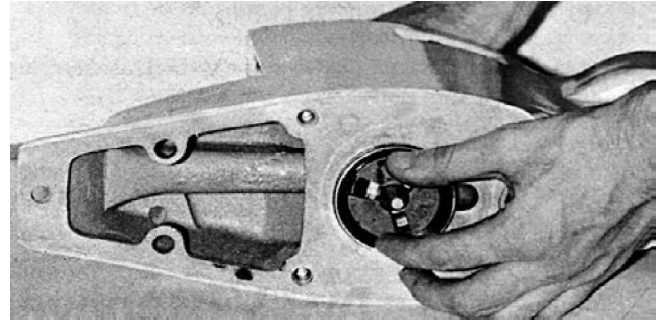
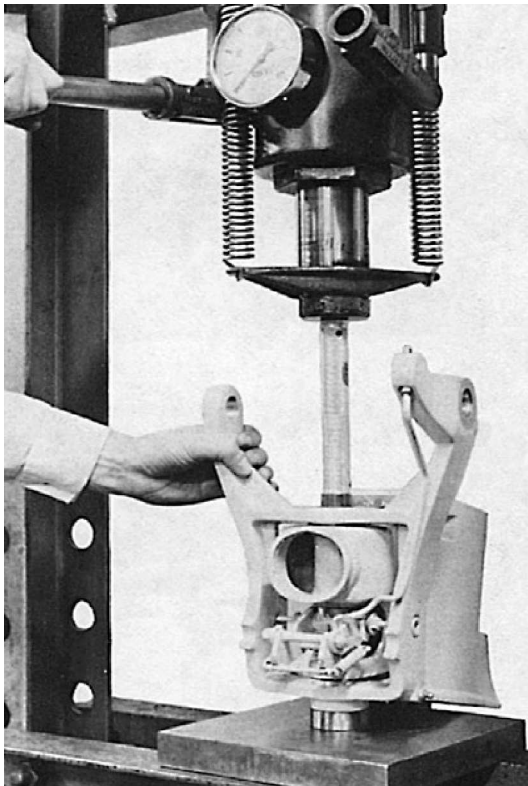

Fig. 25.
Fig. 24.
2. Remove the yoke by knocking out the guide spindle (23). Use tools 884311 and 9991801, see Fig. 24.
3. Remove the plugs (14), the retaining pawl and plastic washers (16 and 60) as well as the wear washer (25).
4. Remove the two sealing rings (13) and the needle bearing (12) with the help of tools 884259 and 9991801, press out the bush (11).
5. Remove the shaft (4) for the shift yoke (2) and pull out the yoke.
6. Drive out the bearing race (13, Fig. 59) for the axial bearing. Use tools 884140 and 884143, see Fig. 25.